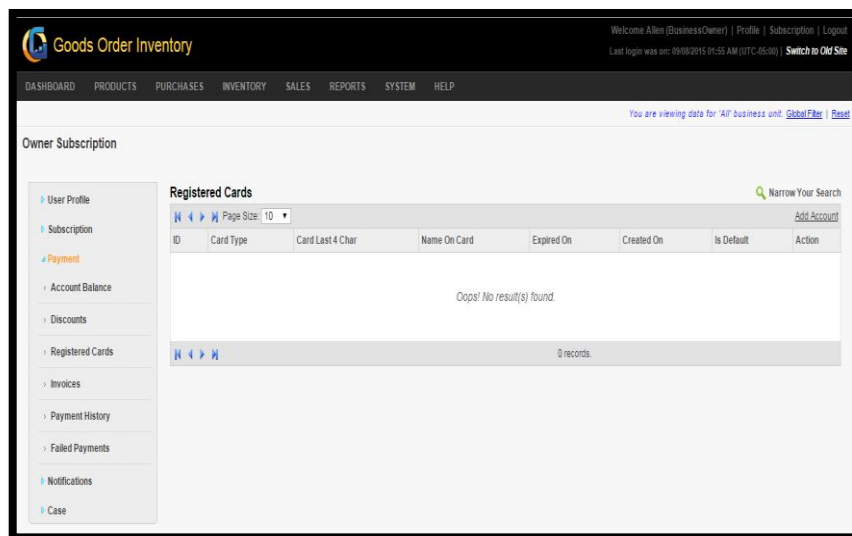

FIGURE 7.22.3
4. A sub menu will slide down; click on the “Registered Cards” tab; detail related to the registered cards will be displayed by the system; only if user has already saved the card. Snapshot of the page is shown in the **(Figure 7.22.3)**